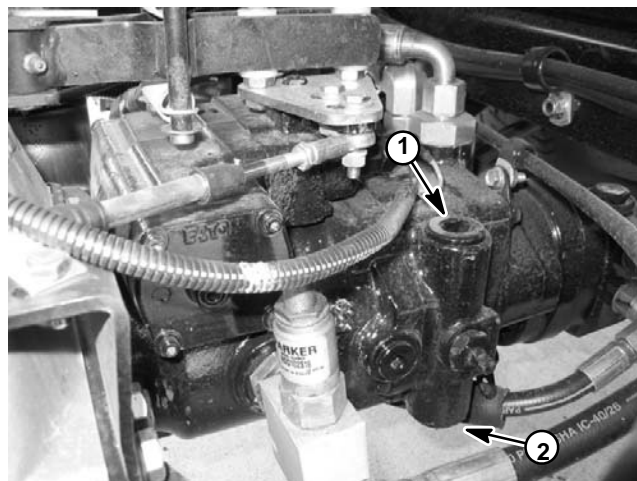

Figure 15
10. If traction pressure is too low, inspect traction pump relief valves (Fig. 15). Clean or replace valves as necessary. These cartridge type valves are factory set, and are not adjustable. If relief valves are in good condition, traction pump or wheel motors should be suspected of wear and inefficiency.